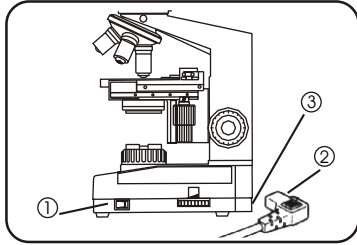

Fig. 13
## 4 Attaching the Power Cord (Figs. 13 & 14)
To prevent an electric shock, set the main switch ① to (OFF) before plugging the power cord. (Fig. 13)
1. Insert the connector ② of the power cord into the connector ③ securely. (Fig. 13)